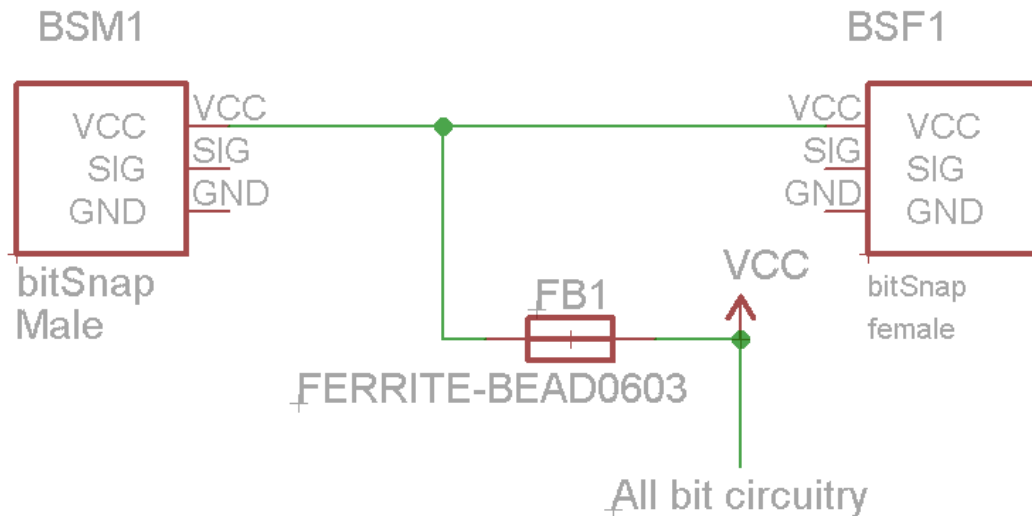

Figure 4: Required topology of Vcc connection
2.0.7 There must be a series ferrite bead between all circuitry and bitSnap Vcc connections (see Figure 4).